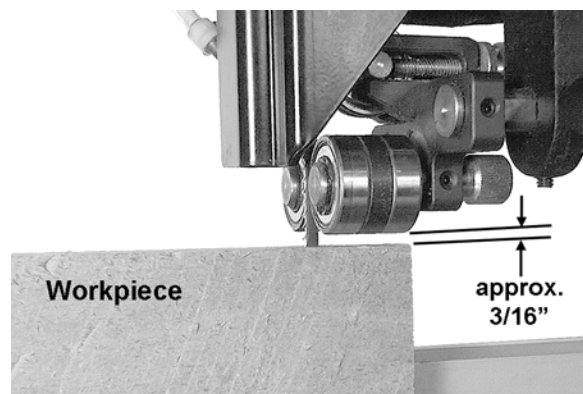

Figure 30
2. Adjust blade guide assembly so that the guide bearings are just above the workpiece (about 3/16") allowing minimum exposure to the blade. See Figure 30.